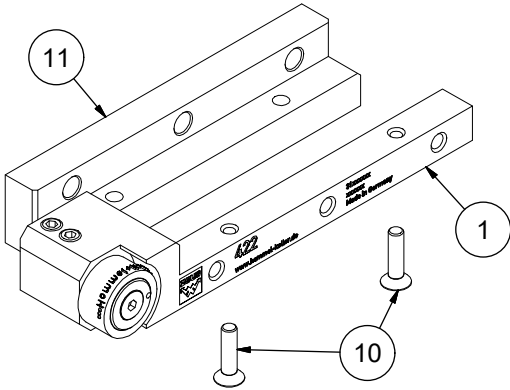

Figure 10: Shank adapter installation
With use of shank adapters, the tool can be used on all machines. For this purpose, fasten the supplied shank adapter (Fig. 10, pos. 11) with the accompanying countersunk screws (Fig. 10, pos. 10) on the base shank (Fig. 10, pos. 1).